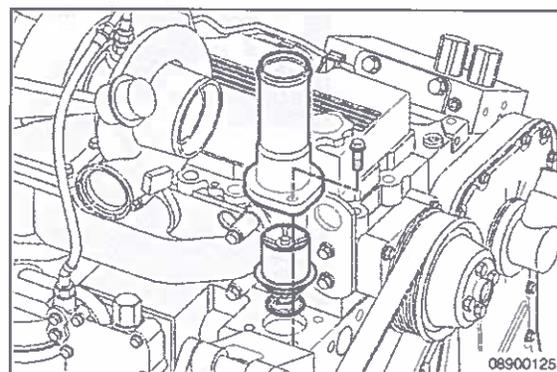

Fig. 4
8. Install the new thermostat (BB# 10032468) into the water outlet connection. Make sure the top and bottom o-rings are in place. If the o-rings are damaged, replace with new o-rings. (Fig. 4)
9. Install the water outlet connection and mounting capscrews. (Fig. 4)